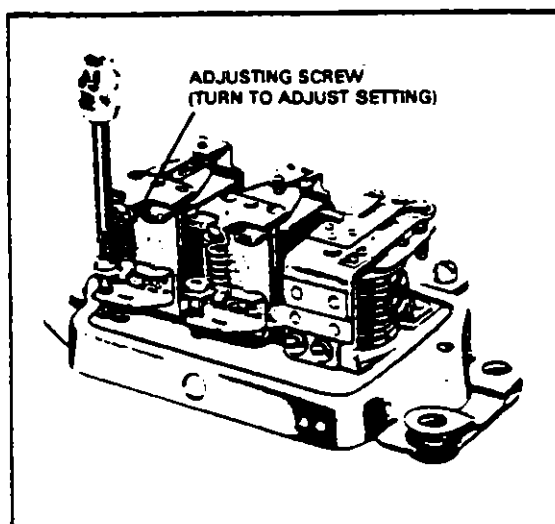

FIGURE 9-6. ADJUSTING VOLTAGE REGULATOR SETTING
h. To adjust voltage setting turn adjusting screw (Figure 9-6). Turn clockwise to increase setting and counterwise to decrease voltage setting.
e. Adjust in same manner as described for the voltage regulator (Figure 9-6).